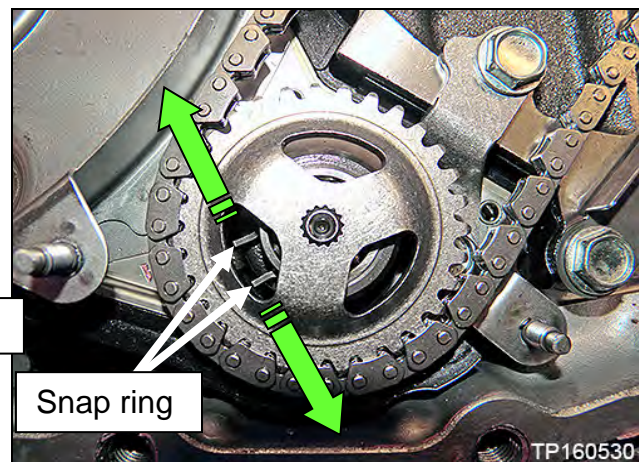

Figure 13B
- Spread the snap ring to remove sprocket (Figure 13B).